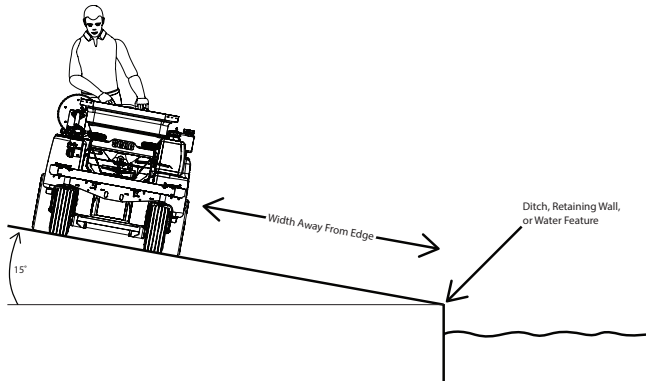

Figure 4-21. Distance From Hazard
2. Stay two machine widths away from slopes, drop offs, ditches, water, retaining walls avoid any slope exceeding 15-degrees. See Figure 2-3, Page 11 and Figure 4-21.